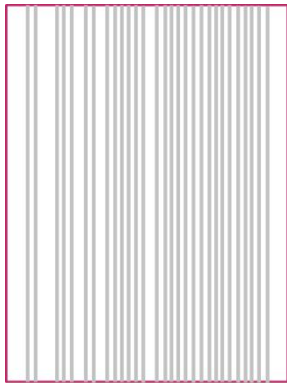

Figure 14 Photo mask mura
3.1.4.Photo Mask and Design Mura: (figure 14):